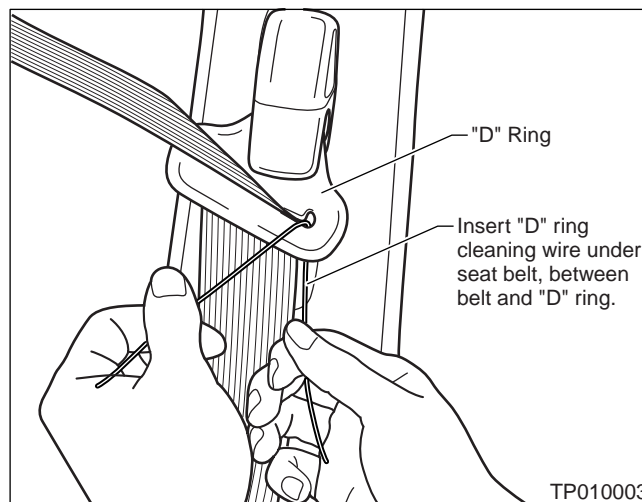

Figure 6
3. Insert the "D" ring cleaning wire (provided in the kit listed in the PARTS INFORMATION section of this bulletin) under the seat belt, between the belt and the "D" ring (see Figure 6).